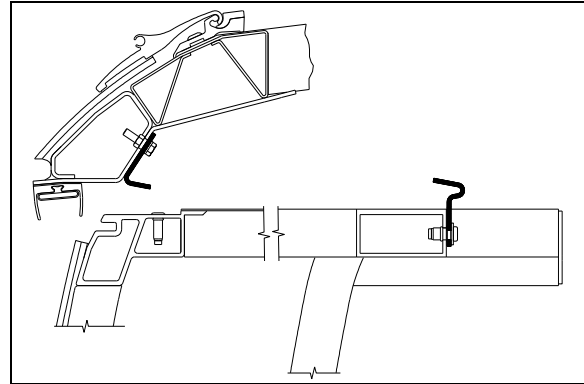

FIGURE 32 : SLIDE-OUT 2" INSIDE – UPPER PART
5. Using the manual override procedure, move the slide-out 2" inside the vehicle, so the seal is accessible from outside (FIGURE 32).
6. Once completed, use the manual override procedure to extend the slide-out to reinstall the exterior extrusion. Apply appropriate sealant on the exterior extrusion screws and between the extrusion, the roof and the edges to prevent water infiltration (FIGURE 32).